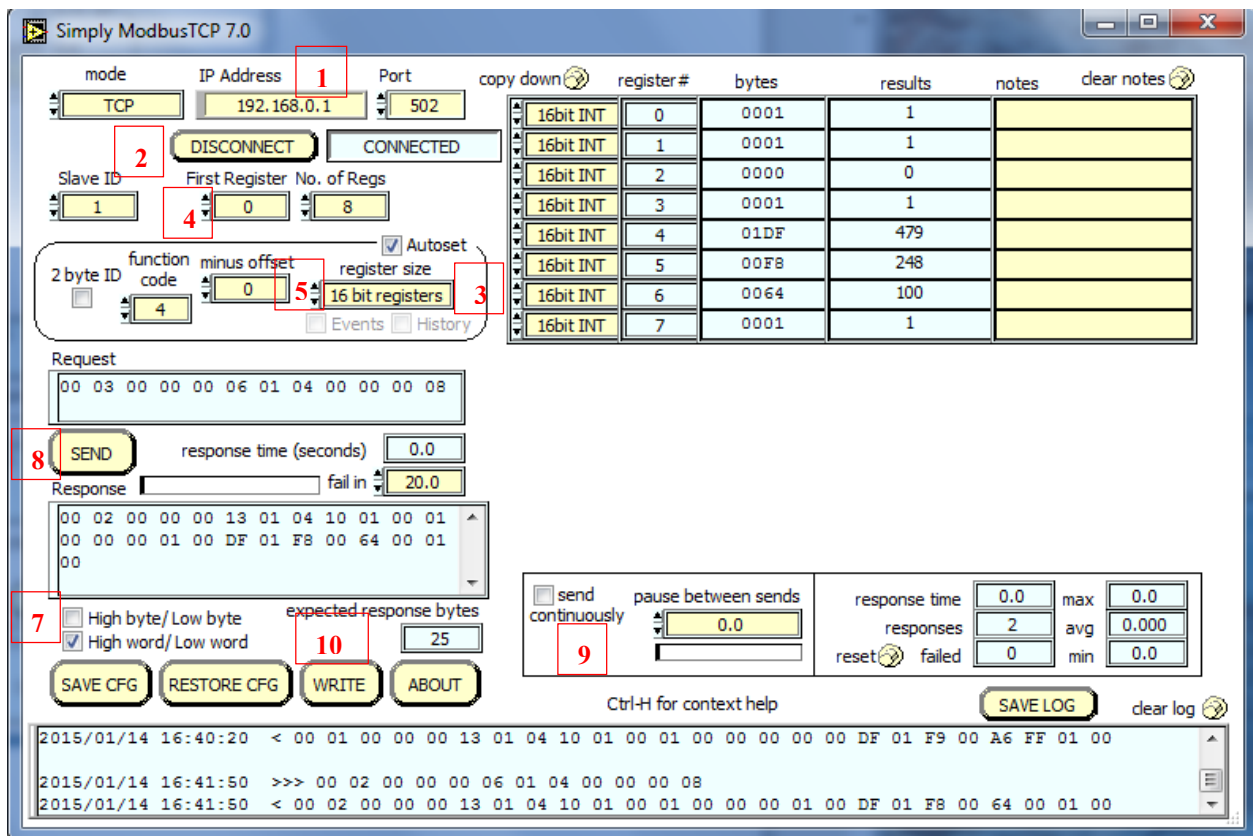

Figure 9.11: Simply Modbus Screen
- In our example the Modbus TCP master is “Simply Modbus”, see Figure 9.11.
- Reference **Figure 9.11** and click the write command in the Simply Modbus main window (see **Figure 9.11** position 10).